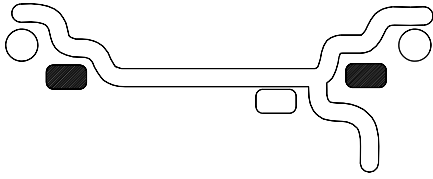

Figure 17 **ALU 1**
**C. ALUMINUM MODES.** Balancing using a combination of hammer-on and adhesive weights as shown in Figures 17 thru 21.